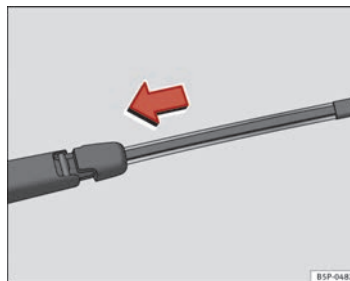

Fig. 169 Fitting the rear window wiper blade ▶
- Place the blade as shown in the ⇒ Fig. 169 and slide the adapter along until it engages.